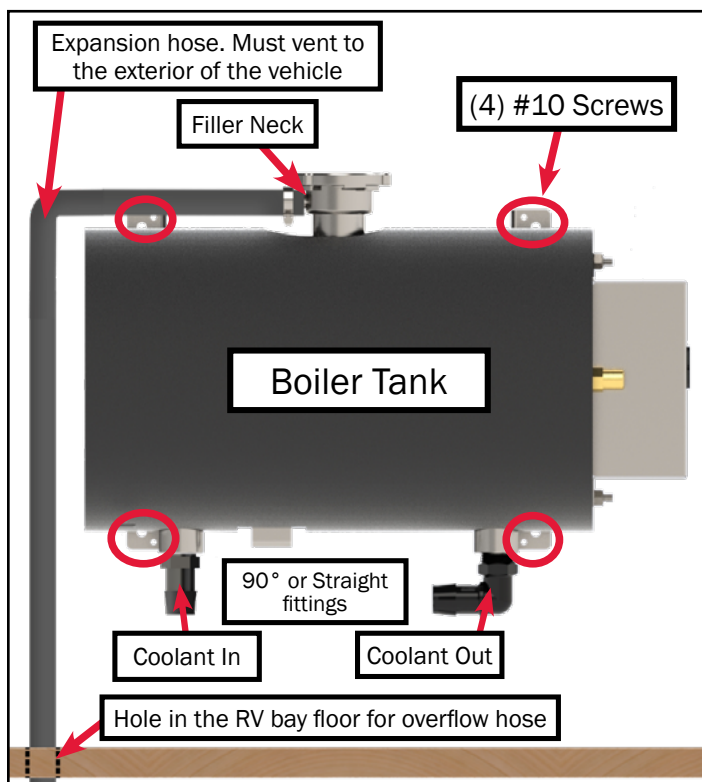

Figure 11
3. Identify the needed lengths of hose, insulation, wiring, and the proper connectors to reach each component. Reference Figure 11 and the parts list at the back of this manual.
Mounting the Boiler Tank (Figure 11)